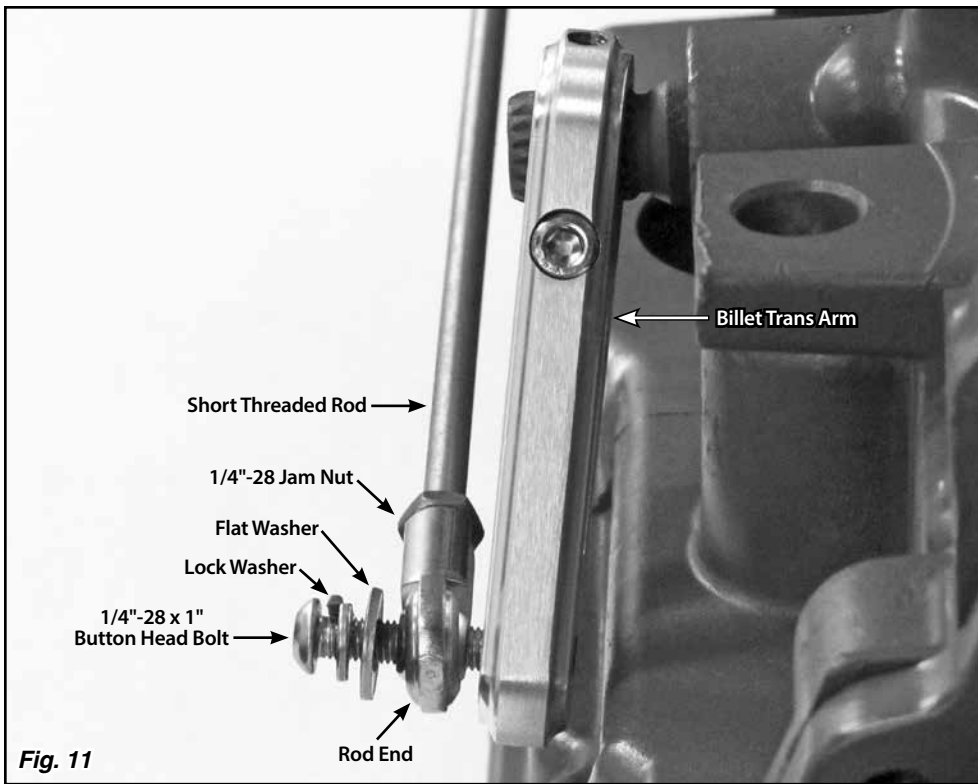

Fig. 11
Step 15: Verify that both 1/4"-28 jam nuts are on the short threaded rod. Thread one end of the short threaded rod into the rod end on the linkage arm, and install a rod end onto the opposite end of the short threaded rod. Attach that rod end to the outside of the billet trans arm using the 1/4"-28 x 1" button head bolt with a lock washer and flat washer as shown in **Fig. 11**.